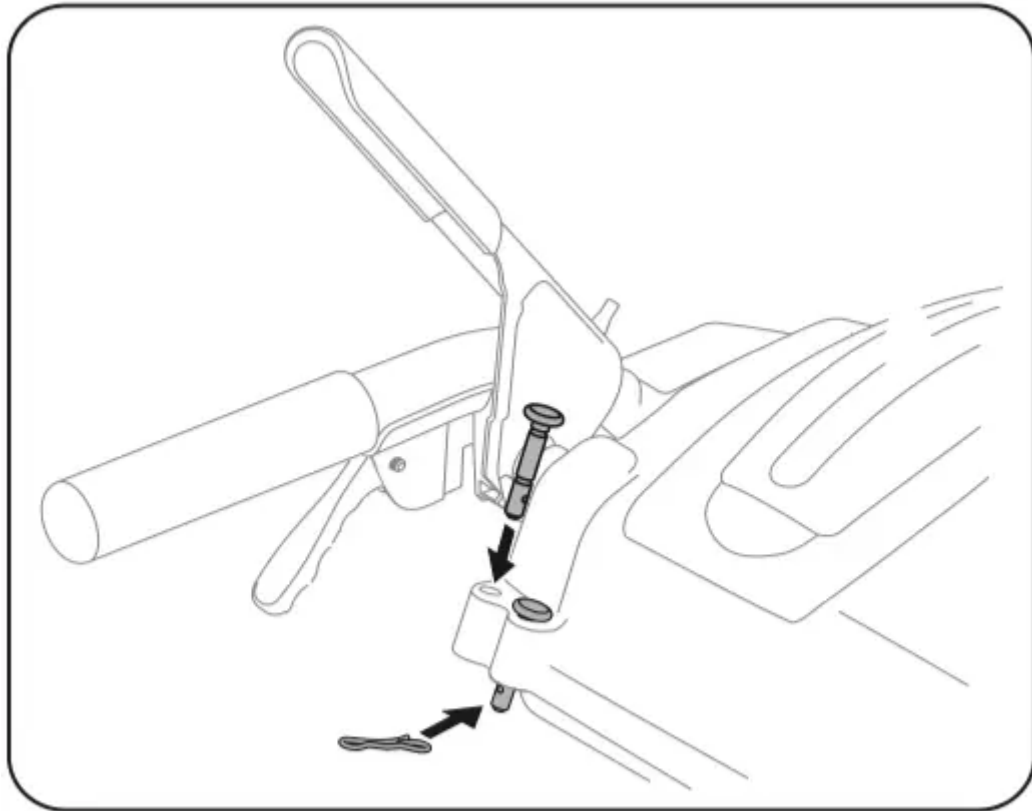

**Figure 40**
1. Locate cable guide on top of engine and ensure cable(s) are properly routed through the cable guide. See Figure 40.